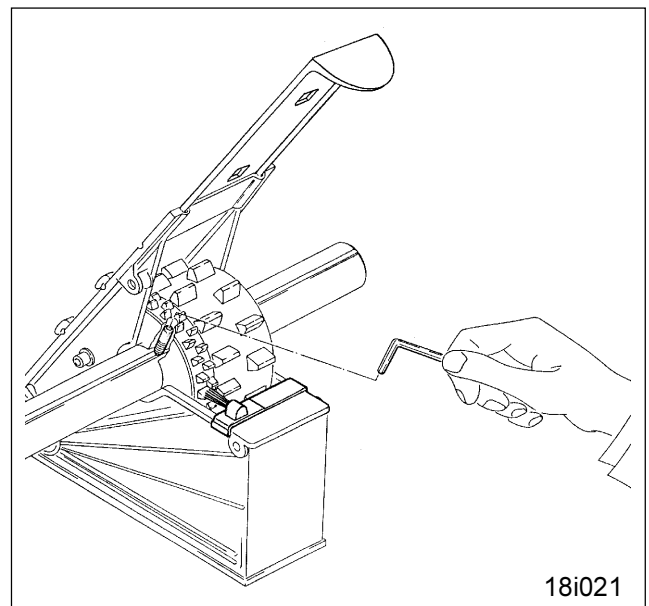

Fig. 18.26
- The seed wheels (Fig. 18.26) driven by the seed shaft (Fig. 18.26) are fixed to the seed shaft with threaded pins which are inserted in the fine seed metering wheels. Loosen the threaded pins of the new tramline seed metering wheels (see Fig. 18.26) until the new tramline seed metering wheels can freely move on the seed shaft.